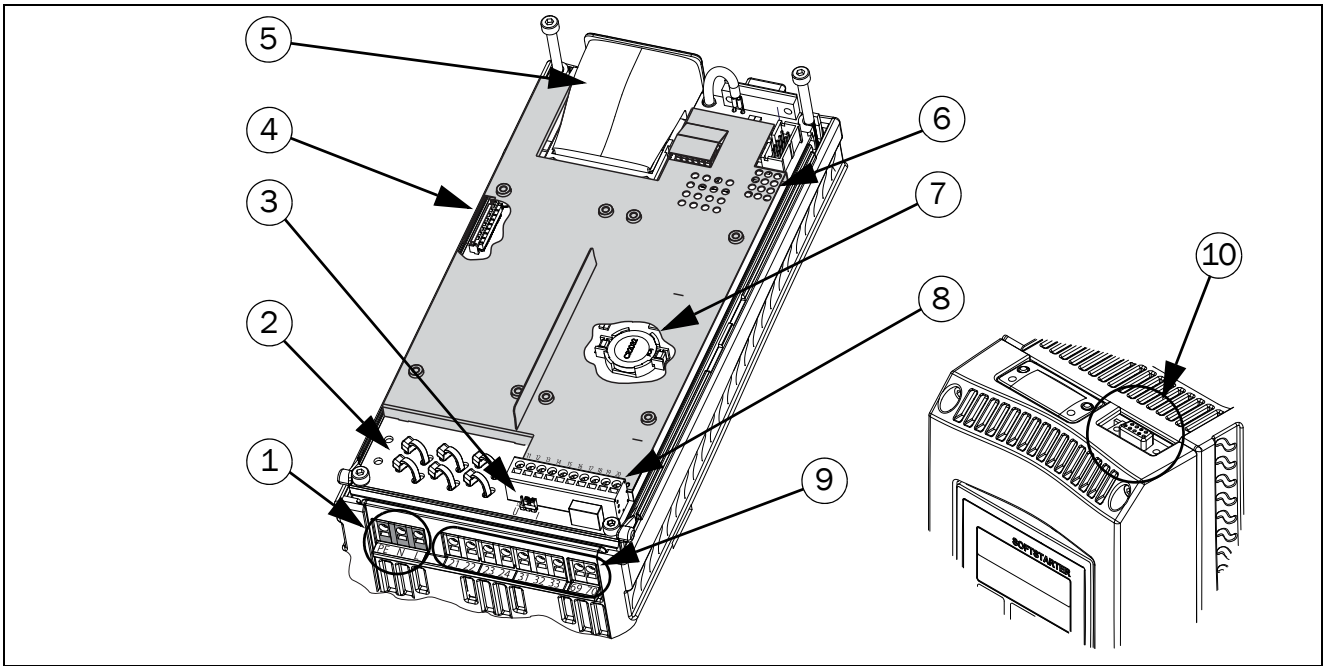

Fig. 17 Board layout for Emotron TSA .
**NOTE:** The Emotron TSA controlboard is equipped with a ground plane to which shielded cables can be connected (see Fig. 17 on page 21).